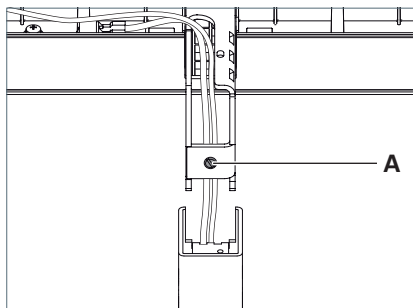

Fig. 16: Adjusting the luminaire head.
- ▶ To lift the luminaire head slightly, rotate the adjusting screw **A** one turn counter-clockwise, see Fig. 16.